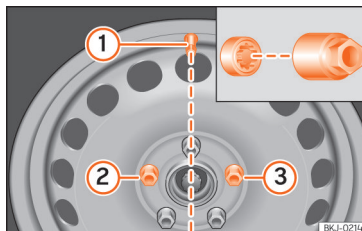

Fig. 220 Tyre change: tyre valve ① and the correct position for the anti-theft wheel locking bolt ② or ③.
On wheels with integral hubcaps, the anti-theft wheel locking bolt must be screwed in the positions »»» Fig. 220 ② or ③, taking as reference the position of the tyre valve ①. Otherwise it will not be possible to mount the hubcap.